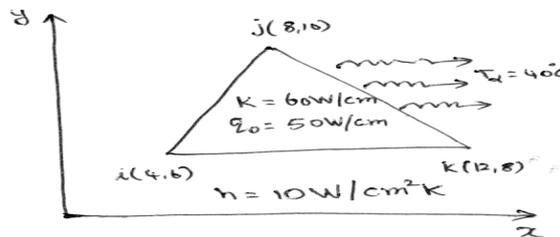

Figure-10
- b) Compute element matrices and load vectors for the element shown in figure-10. When the edge k-j experiences convection heat loss.